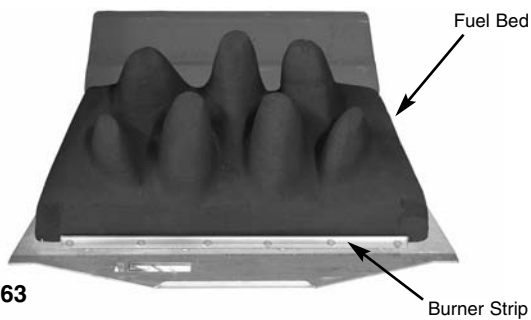

Fig. 63
2. Place the main fuel bed on to the middle section of the metal burner tray. It is important that the front edge of the fuel bed is located behind the burner strip (Fig. 63).